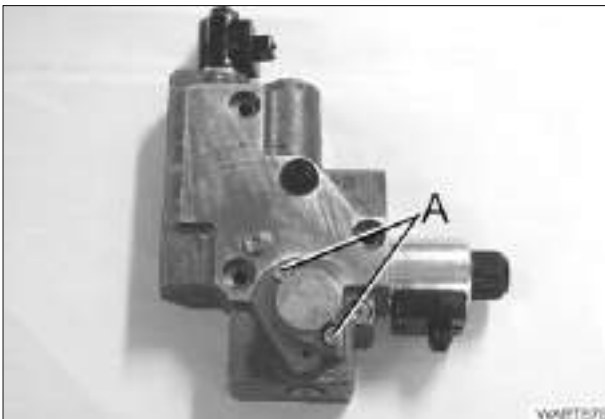

Fig.48
- Change the fine filter (A).
- Screw in the threaded connection (see CARE AND MAINTENANCE Fig. 48 /A) and tighten to 5.5 +1.8 Nm.